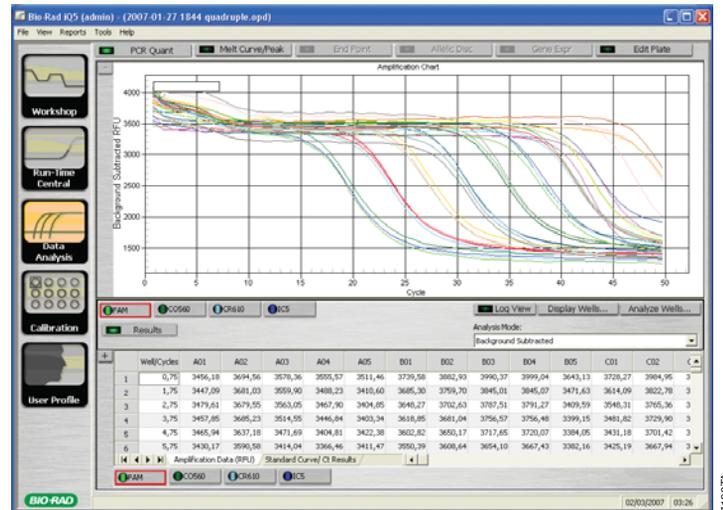

Figure 18. The PCR Quant tab of the iQ™5 Data Analysis module. Results view is selected; the Amplification Data (RFU) spreadsheet is displayed.
1. Navigate to the PCR Quant tab of the Data Analysis module in the iQ™5 optical system software. Select the Amplification Data/RFU tab in the results spreadsheet for the first dye (Figure 18).